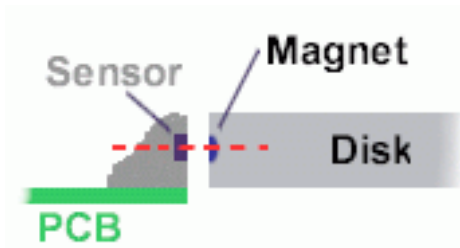

Figure 3 Ensure correct alignment of magnet disk and sensor.
- Take care that the magnets in the disk are approximately in the same height as the sensor, see figure 3 on the next page.